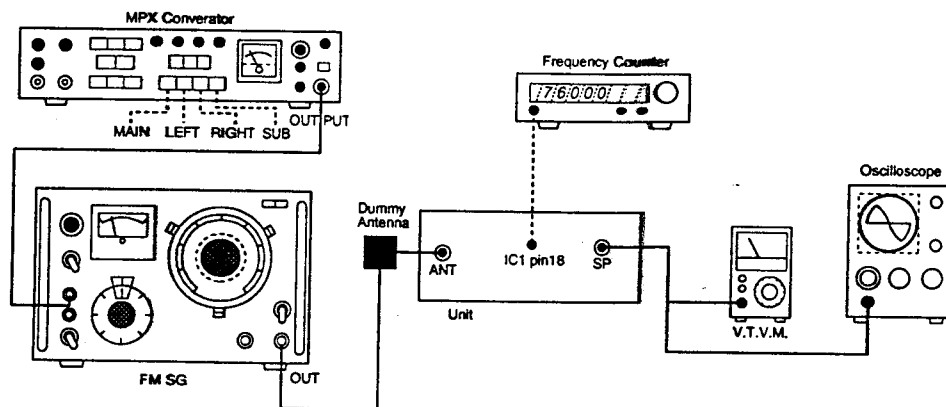

Fig. 3
- Connect test instruments as shown in Fig.3.